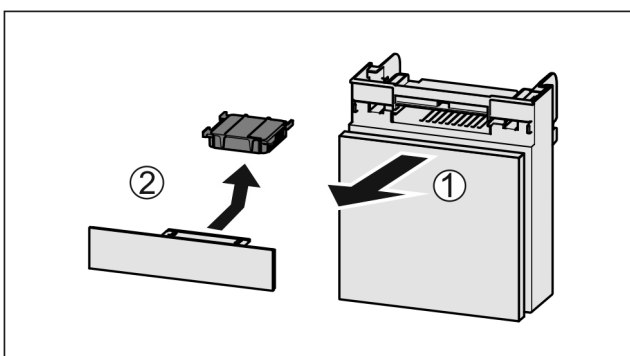

Fig. 144
- ▶ Pull out the compartment Fig. 144 (1).
- ▶ Remove the carbon filter Fig. 144 (2).